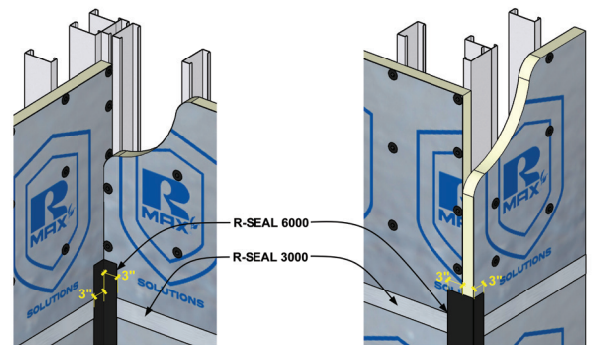

Figure 8
I. **Corners:** Use R-SEAL 6000 to bridge adjacent insulation boards at corners. Apply at the bottom of the wall and work up extending flashing a minimum of 3" onto each facer (beyond the foam core). **Reference Figure 8.**